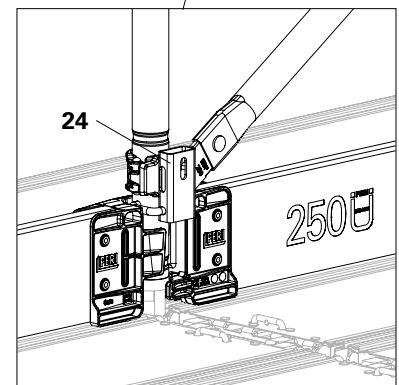

Fig. D6.09b
- Attach the Guardrail Post EVP (50) to the Ledger-to-Ledger Coupler UH half with spigot (92). Fit the second guardrail post (50a) onto the multi girder (73).
- Fit Guardrail Posts EPG (51) onto the Guardrail Post EVP (50).
- Fit Toe Board UPF (56).
2. Attach End Guardrail EPF (54) to first and last scaffold bays.
3. Fit Easy Standards EVM 200 (22) onto all guardrail posts and connect them with horizontal ledgers (98).
5. Brace every frame column with scaffold tubes (75), swivel couplings (49) (49.1) and wall ties (46).
6. Fit a brace onto Guardrail Post EVP using Brace Adapter EBA (24). (Fig. D6.09b)